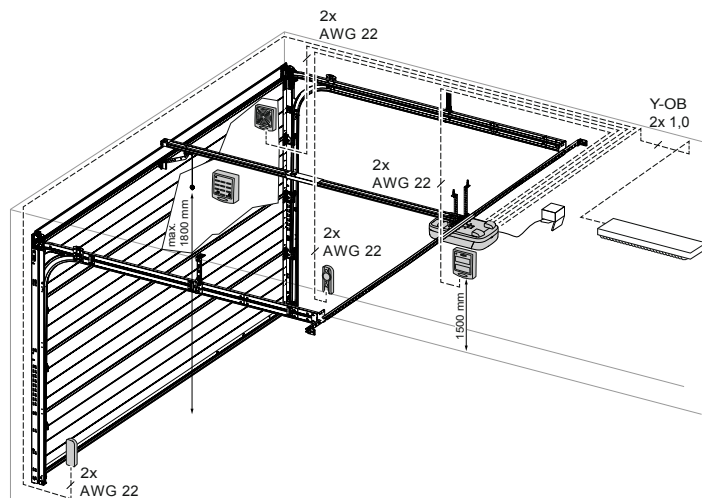

Fig. 3: Example installation of accessories
Mount the centre suspension (13) to the rail (fig. 3).